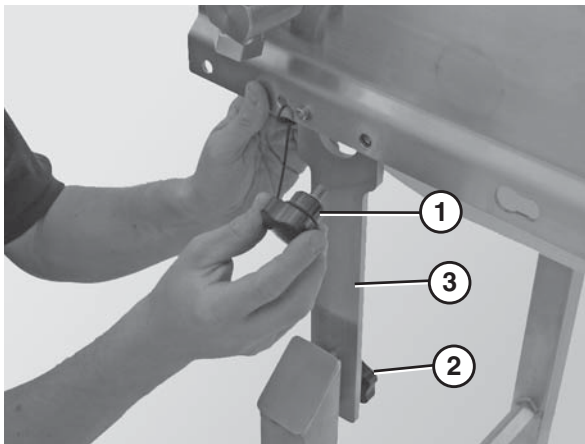

Figure 27
1. Disconnect the cutoff knob (Figure 27, item 1).
2. Loosen the lobed knob (Figure 27, item 2) and push in on the pivot bracket (Figure 27, item 3). Note: The lobed knob will need to be loose enough that the locking pins are no longer holding the bracket in place.